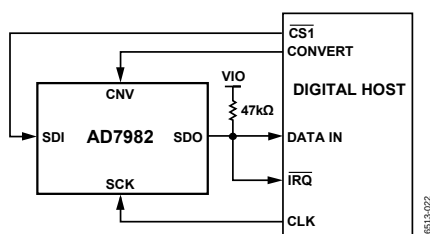
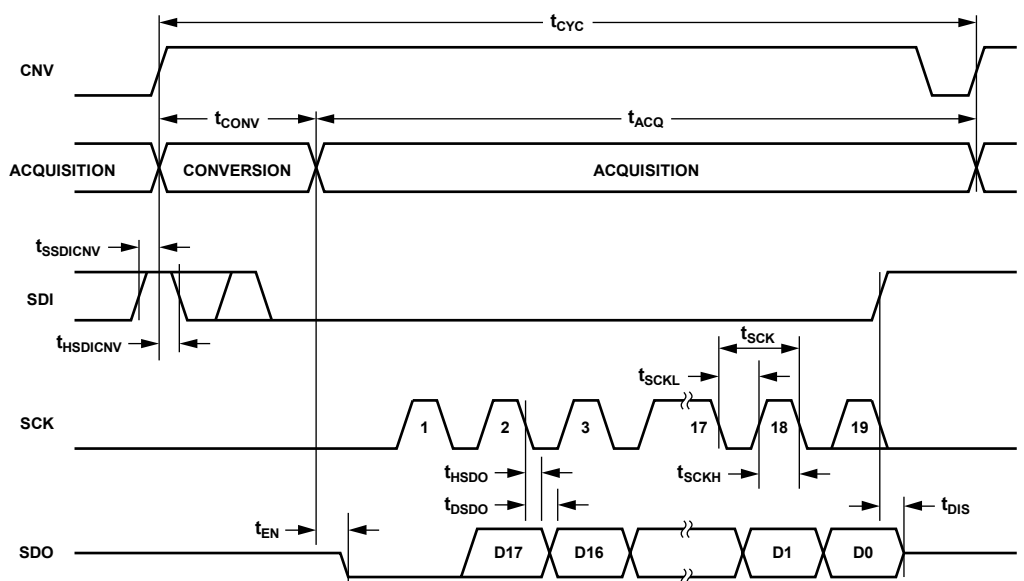

Figure 35. $\overline{\text{CS}}$ Mode, 4-Wire with Busy Indicator Connection Diagram
Figure 36. $\overline{\text{CS}}$ Mode, 4-Wire with Busy Indicator Serial Interface Timing
- In the $\overline{\text{CS}}$ mode if CNV or SDI is low when the ADC conversion ends (see Figure 32 and Figure 36).
The connection diagram is shown in Figure 35, and the corresponding timing is given in Figure 36.